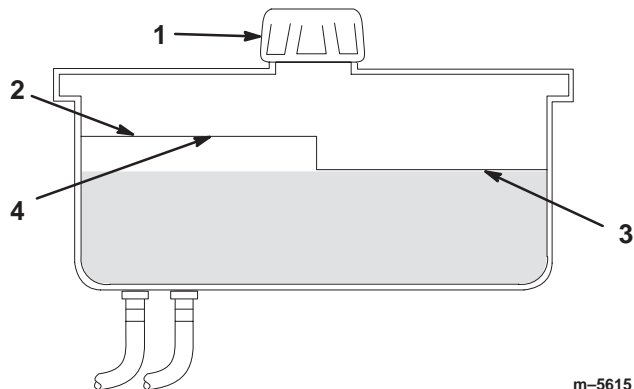

Figure 40
2. Clean area around filler neck of hydraulic tank (Fig. 40).
3. Remove cap from filler neck. Look inside to check if there is fluid in the reservoir. (Fig. 40).
Note: The fluid level should be to the top of the **hot** level of the baffle, when the fluid is warm (Fig. 40).